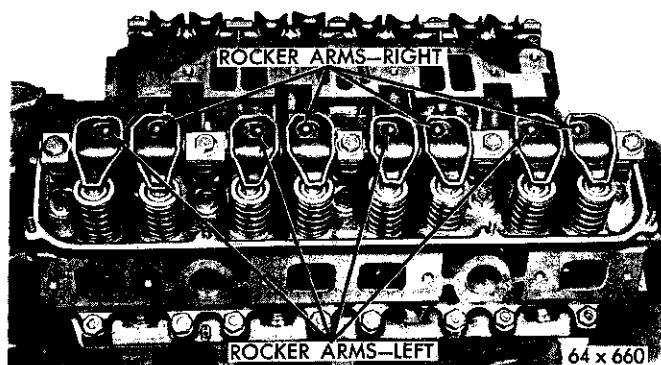

Fig. 4—Rocker Arm Assemblies Installed
- (1) Remove the cylinder head cover and gasket.
- (2) Remove the rocker shaft bolts and retainers and remove the rocker arms and shaft assembly.
- (3) If the rocker arm assemblies have been disassembled for cleaning, inspection, or replacement, refer to Figure 4 for proper reassembly.
(7) Install the rocker arm and shaft assembly starting each push rod into its respective rocker arm socket (Fig. 4) making sure to install the long stamped steel retainers in the number two and four positions.
- (8) Place the new cylinder head gasket in position and install the cylinder head covers. Tighten the nuts to 40-inch pounds torque.
- (9) Install the exhaust manifolds and tighten the nuts to 30 foot-pounds torque.
- (10) Adjust the spark plugs to .035 inch gap and install the plugs, tighten to 30 foot-pounds torque with Tool C-3054.
- (11) Install a new tappet chamber cover and tighten the end bolts to 9 foot-pounds torque.
- (12) Install the intake manifold, carburetor and ignition coil as an assembly and tighten the manifold bolts to 50 foot-pounds torque.
- (13) Install the distributor cap. Connect the coil wire, heat indicator sending unit wire, accelerator linkage, spark plug cables and the insulators.
- (14) Install the vacuum tube from the carburetor to the distributor.
- (15) Install the alternator and drive belts. Tighten the alternator bracket bolts to 30 foot-pounds, and the alternator mounting nut to 20 foot-pounds torque.